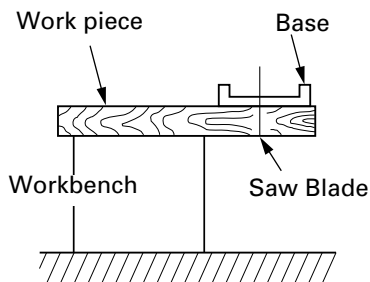

Fig. 9
6. Prepare a wooden workbench (Fig. 9)